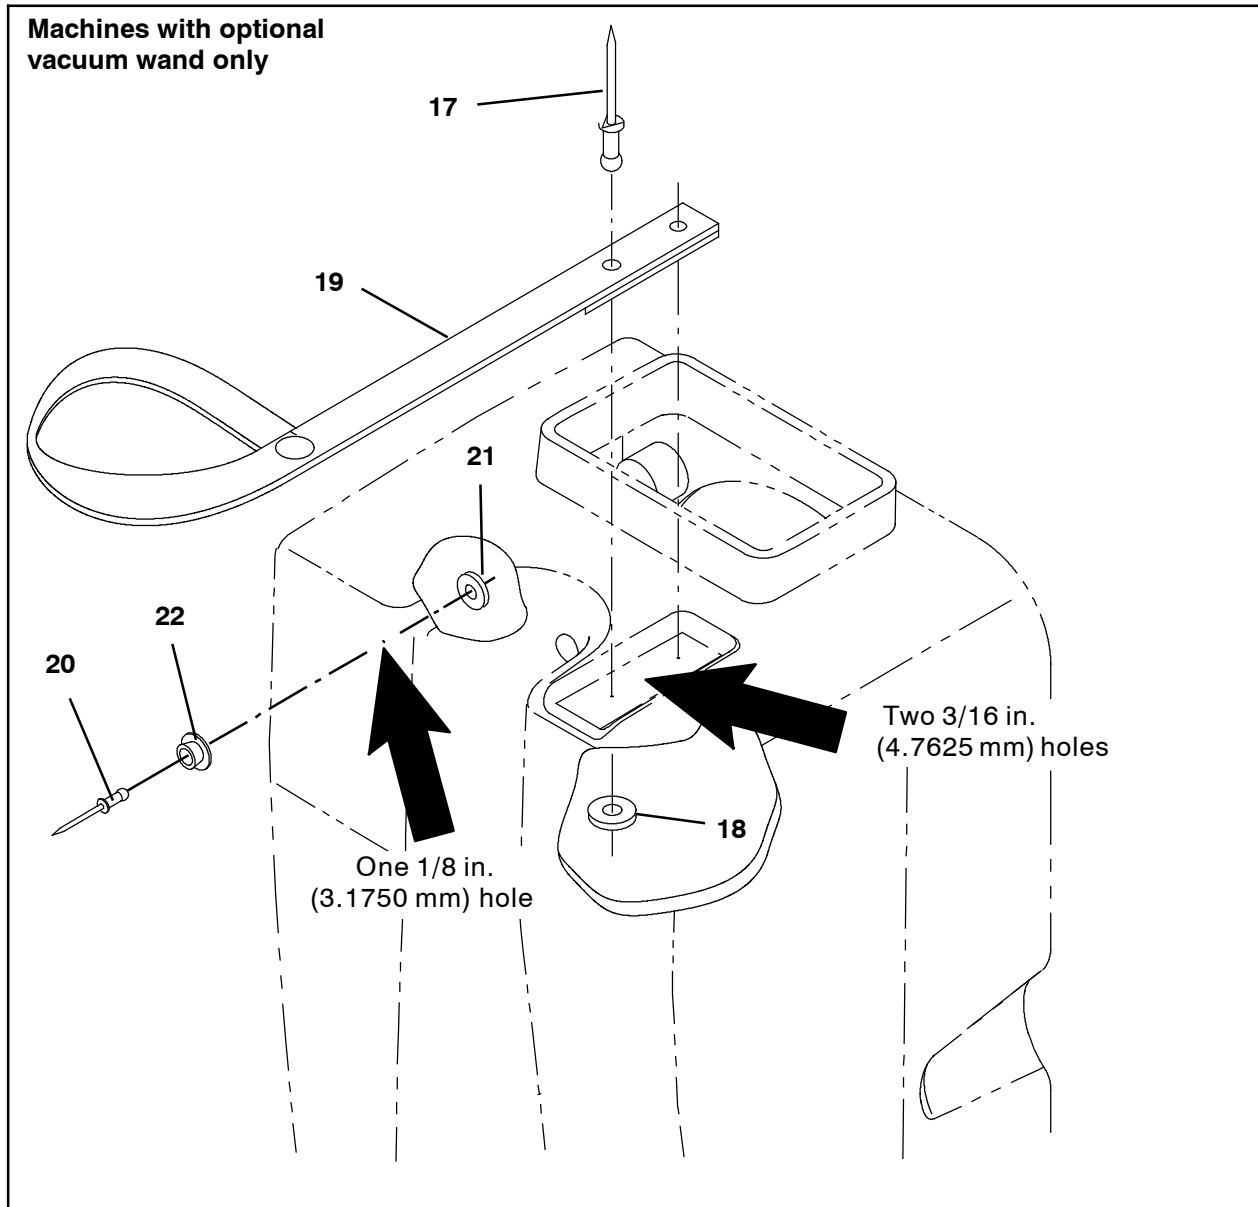

FIG. 3
10. **Machines with optional vacuum wand only:** Drill two 3/16 in. (4.7625 mm) holes and one 1/8 in. (3.1750 mm) hole into the vacuum fan housing (1). Look for drill points (indentations) in the vacuum fan housing for exact locations where holes should be drilled. (Fig. 3)
11. **Machines with optional vacuum wand only:** Use a rivet (20) and flat washer (21) to install the push snap catch (22) onto the vacuum fan housing (1). (Fig. 3)
12. **Machines with optional vacuum wand only:** Use two rivets (17) and two washers (18) to install the handle retainer strap (19) onto the vacuum fan housing (1). (Fig. 3)